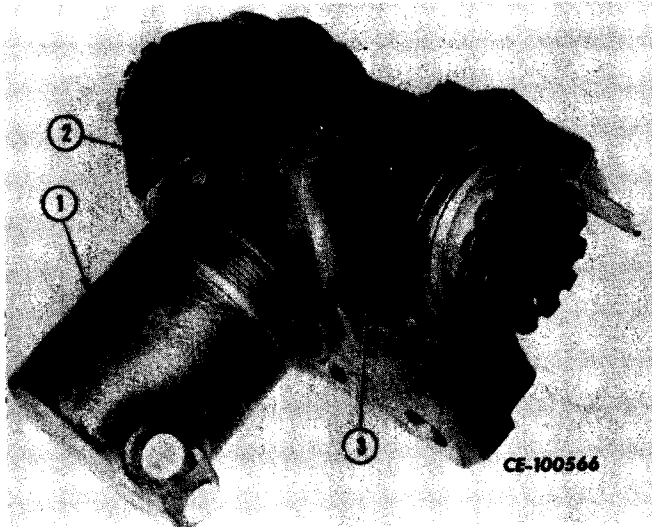
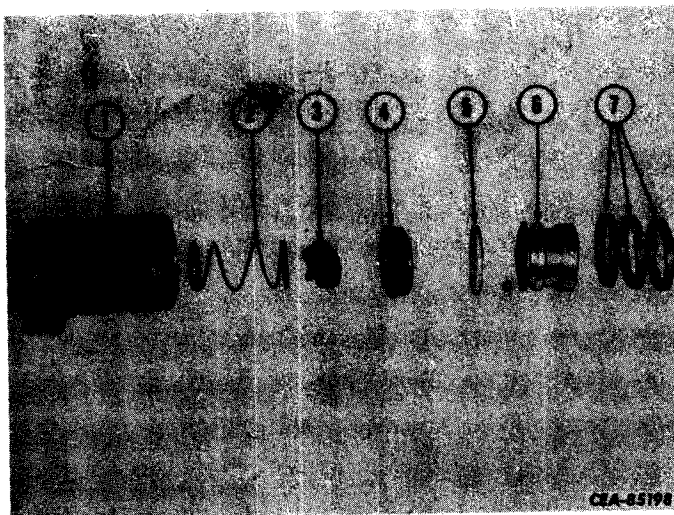

Figure 13-51
Figure 13-52
Loosen set screw (2, Fig. 13-51) and unscrew cylinder (1) from plunger housing (3). Remove bleeder screw from cylinder.
Slide piston (6, Fig. 13-52) from cylinder (1). Remove back-up pad (5), cup (4), plug (3) and spring (2). Remove seal rings (7) from piston.
Lubricate cylinder parts (Fig. 13-52) with clean hydraulic fluid. Install new seal rings (7) on piston (6). Install spring (2) and plug (3) in cylinder (1). Carefully install cup into cylinder bore, entering lip of cup into bore, flat side of cup out. Insert back-up pad (5) and piston assembly, flat end first into cylinder and push piston and cup down to bottom of bore. Screw cylinder unit into body (3, Fig. 13-51) until it bottoms. Install bleeder screw and set screw (2). Refer to "INSTALLATION" for lockscrew torque recommendations.
If necessary, loosen set screw (2, Fig. 13-51) and back cylinder (1) off NOT MORE than one turn to position bleeder screw in a vertical position. When properly positioned,